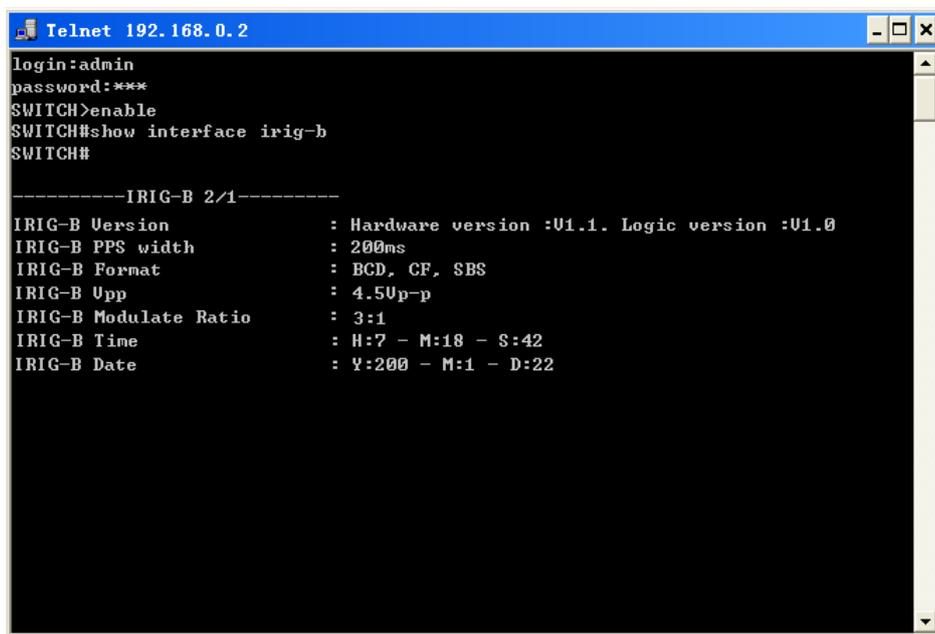

Figure 23 Telnet Configuration Interface
3. Click “OK” to enter the Telnet configuration interface as shown in Figure 23. Login with default user name “**admin**” and password “**123**”, and type in the command “enable” to enter management view, and then type in the command “show interface irig-b” to search for current information of the module.